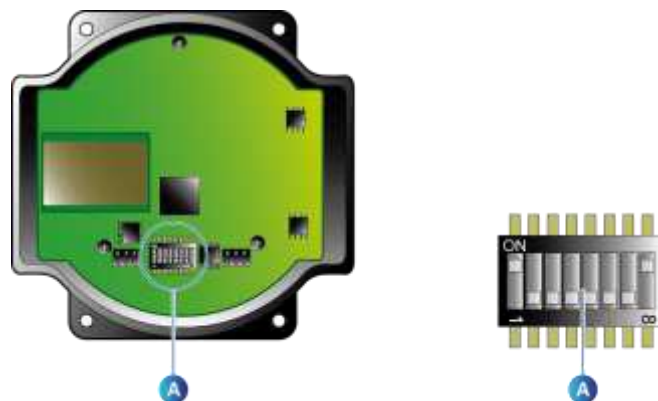

Figure 49: micro switch configuration on the *master receiver*.
- Position the microswitches as shown below (Figure 49, A) **after opening the cover of the *master receiver***: